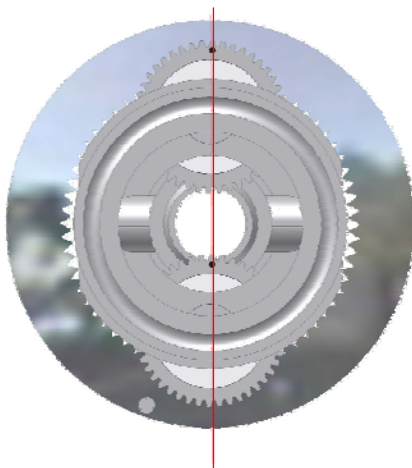

Figure 20
2. *See Figure 20 for gear alignment instructions when placing position 37 back into position 32.3.*
1. Reverse the above procedure and be sure to time the gears as indicated in Figure 20.